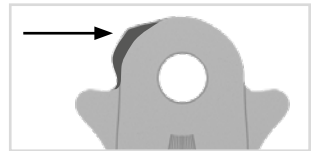

Fig. 32
If you do not need the conversion options (see paragraph 11), you can completely file off the nose along the vertical line (fig. 32 and 33).
- 1 Grind the system stirrup along the laser line (fig. 32 and 33).